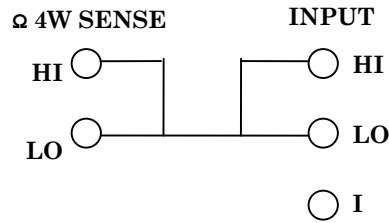

Figure 1. 4-wire short.
(1) Press **FUNCTION DC V** key.
(2) Press **Shift** key then **RANGE/DIGITS Auto/Man** key to select 6½ digits resolution.
(3) Short TI front and rear input terminals as shown in figure 1 using copper wire and allow 5 minutes for thermal offset voltage settling after handling input connections.